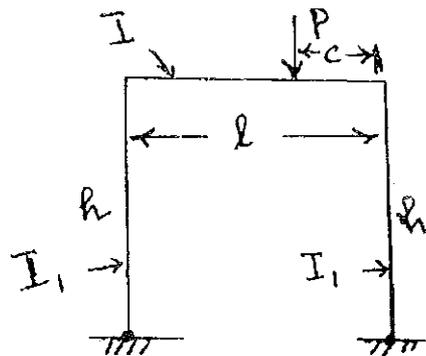

Fig. 4
13. (a) Find the horizontal reaction of the frame shown in the Fig. 4, using strain energy method.